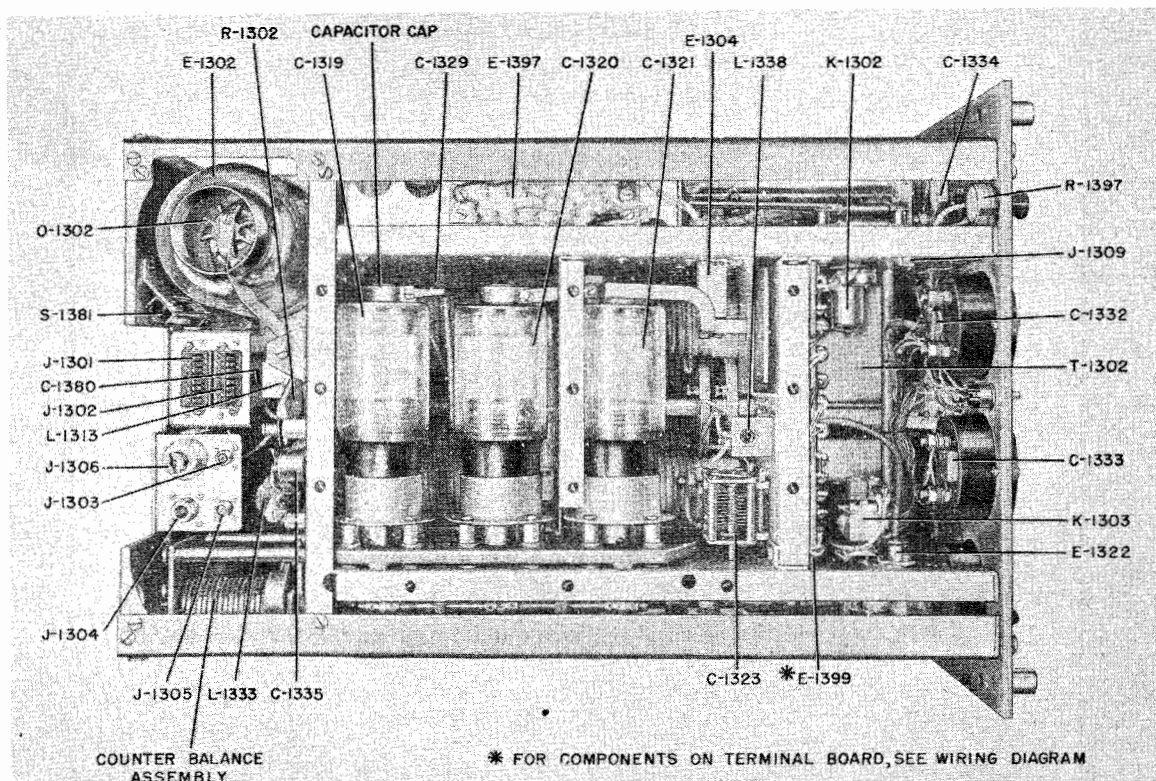
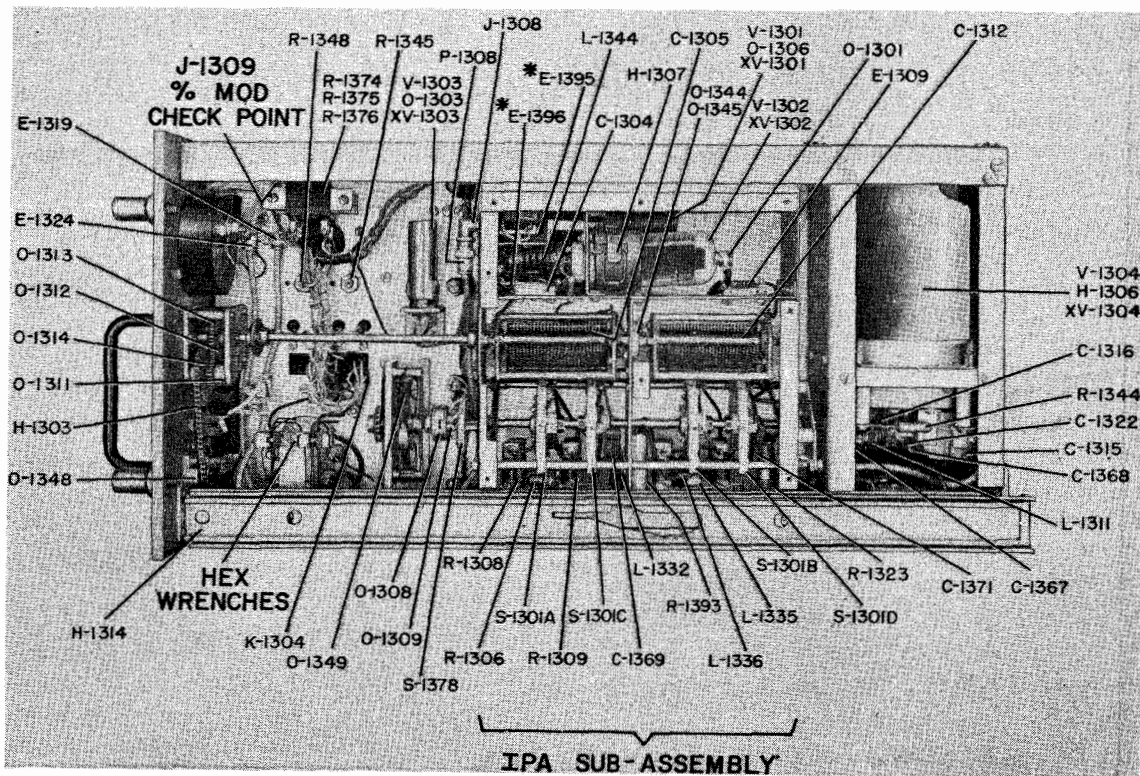
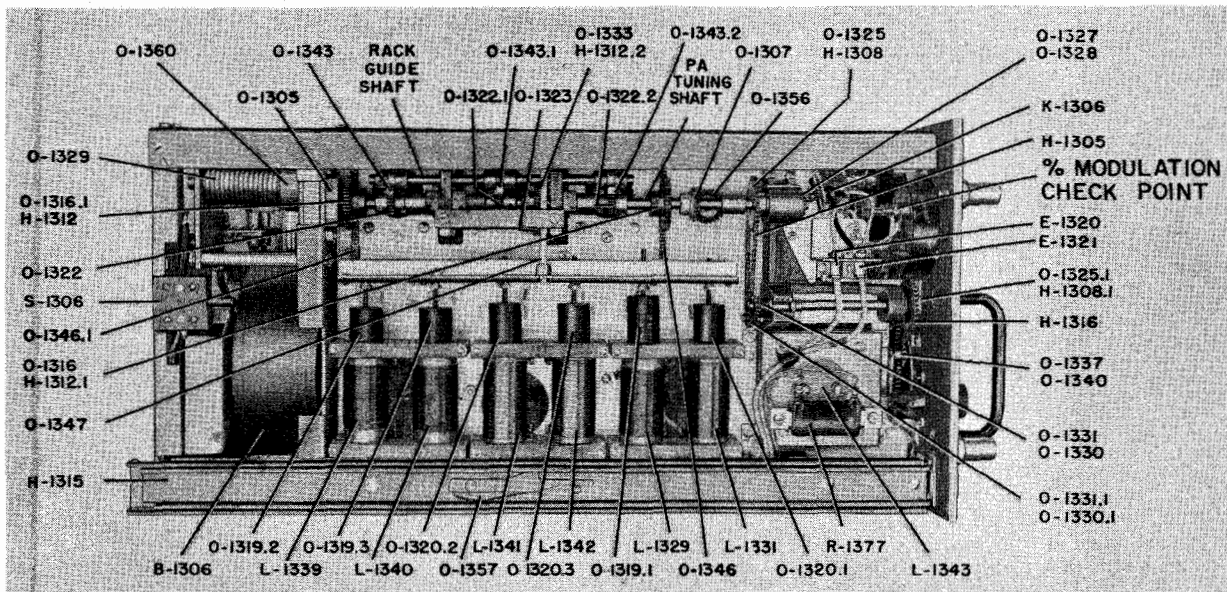
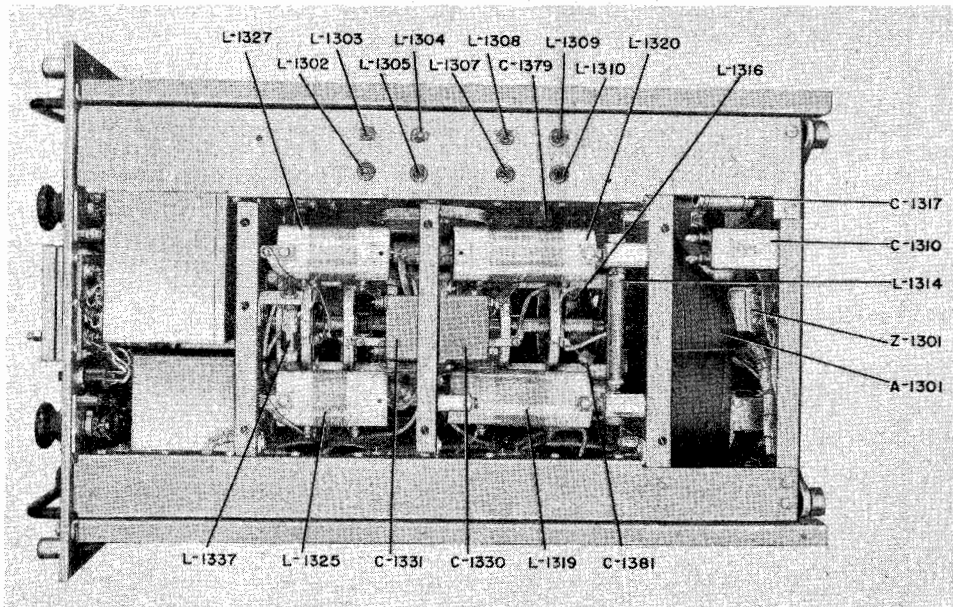

Figure 7-68. Radio Frequency Amplifier AM-1008/SRT (RFA), Top View
Figure 7-69. Radio Frequency Amplifier AM-1008/SRT (RFA), Right View, Cover Removed from IPA Subassembly
Figure 7-71. Radio Frequency Amplifier AM-1008/SRT (RFA), Left View
Figure 7-72. Radio Frequency Amplifier AM-1008/SRT (RFA), Bottom View
(LLRM) keying circuits (paragraph 6a(2)) as well as in the RFA. The r-f keying voltage from the LLRM can be checked at IPA subassembly terminal board E-1397, terminal 44, located at the top of the RFA drawer. (See figure 7-68.)
ma) and I_k (1A), check buffer tube V-1301 (figure 7-69) and the LLRM keying circuits as described in paragraph 6a(2).
(a) BUFFER AND IPA CIRCUITS.—Four slug-tuned inductors in the buffer circuit, four in the IPA circuit, and a padder capacitor are the electrical adjustments that may be utilized in these circuits. The adjustable inductors for bands 2 to 5 mc, 5 to 11 mc, 11 to 19 mc, and 19 to 26 mc are adjusted from the bottom of the RFA drawer, figure 7-72. Padder capacitor C-1304 is located on the right side of the RFA next to IPA tube socket XV-1302, and is accessible when the IPA compartment protective cover plate is removed. (See figure 7-69.) OPERATE-STANDBY switch (P) is placed in OPERATE for these adjustments.
Step 1. Set BANDSWITCH selector (C) to the 19-26 MC position.
Step 4. Set capacitor C-1304 (figure 7-69) to its midposition.
(b) PA CIRCUIT.—All power amplifier circuit adjustments are on the left side of the RFA, figure 7-71, with the exception of L-1337, located on the bottom of the RFA, figure 7-72, and L-1338, on the top, figures 7-68 and 7-74.
1. C-1319, C-1320, C-1321 ADJUSTMENTS.—Vacuum capacitors C-1319, C-1320 and C-1321 (figure 7-68) are adjusted in the following manner:
Step 1. Rotate TUNE PA control (D) clockwise until vacuum capacitors C-1319, C-1320, and C-1321 stop at minimum capacity (minimum engagement of fixed and movable plates).
2. R-1345, R-1348 ADJUSTMENT.—Bias adjustments R-1345 (100 watt) and R-1348 (500 watt) (figure 7-69) are adjusted in the following manner:
Step 1. Place the equipment in stand-by condition, OPERATE-STANDBY switch (P) at STANDBY.
L-1338 (figures 7-68 and 7-74), and L-1337 (figure 7-72), are made in the following manner:
The junction of L-1311 and R-1344 is accessible from the right side of the RFA, at the rear, beneath PA tube socket XV-1304. Connect a clip lead to the left side of resistor R-1344 (located across the two insulators). (See figure 7-69.)
Step 3. Adjust 100-watt bias control R-1345 for a meter reading of -105 volts. R-1345 is located on the right side of the RFA (figure 7-69).
Step 4. Place 500-watt booster equipment in operation and actuate CARRIER READY 500 W by pushing switch (E) on the RFA front panel. BANDSWITCH must be in position 2-5 MC or higher, and the door covering the RFO frequency selection knobs must be closed.
Step 5. Adjust 500-watt bias control R-1348 (figure 7-69) for a meter reading of -200 volts.
Step 3. Set BANDSWITCH (C) to the 2-5 MC position.
Step 5. Turn the carrier on by operating TEST KEY (T) on the LLRM front panel.
Step 8. Adjust L-1337 for minimum receiver output. L-1337 is accessible at the bottom of the RFA by removing the protective cover plate, figure 7-72.
Use the hex wrenches mounted on the right side of RFA drawer (figure 7-69).
Step 17. Adjust L-1338 for a minimum receiver output. L-1338 is located at the top of the RFA drawer (figures 7-68 and 7-74), and is accessible without removing the protective cover plate.
4. L-1339, L-1340, L-1341, L-1342, L-1329 AND L-1331 ADJUSTMENT.—The iron cores of L-1339, L-1340, L-1341, L-1342, L-1329 and L-1331, figure 7-71, are O-1319.2, O-1319.3, O-1320.2, O-1320.3, O-1319.1, and O-1320.1, respectively (figure 7-71), and are adjusted so that the distance between the core top surface and the actuating plate bottom surface is as follows (positioning is not critical): O-1320.1, O-1320.2 and O-1320.3, 5/8 inch; O-1319.1, 3/8 inch, O-1319.2 and O-1319.3, 3/4 inch.
5. C-1319 COUPLING ADJUSTMENT.—Vacuum capacitor C-1319 (figures 7-68 and 7-75) is adjusted for optimum coupling for all bands in the following manner:
1. C-1319, C-1320 AND C-1321.—Vacuum capacitors C-1319, C-1320 or C-1321 (figures 7-68, 7-75) may be removed in the following manner: